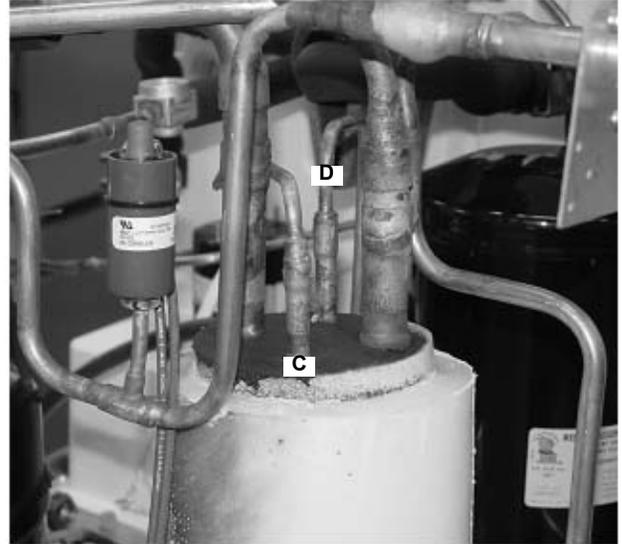

Figure 38.
37. Braze the liquid line inlet (C) and outlet (D) (Figure 38).